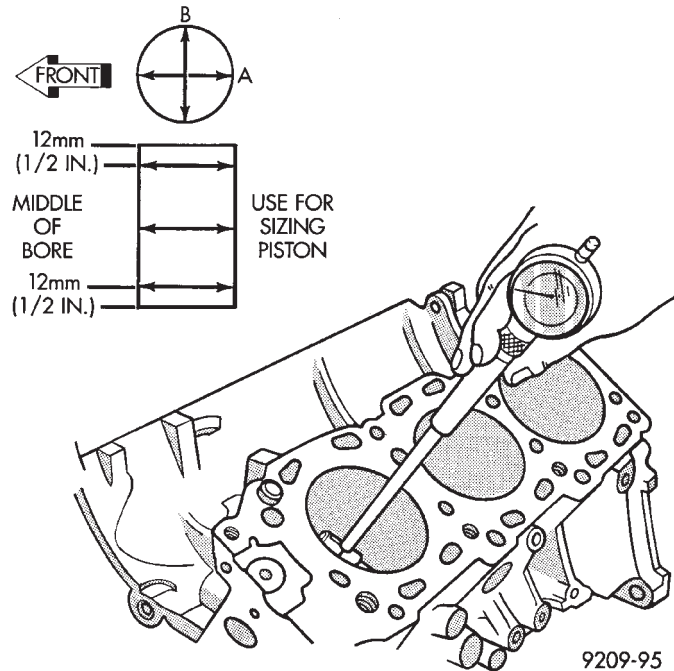

Fig. 92 Checking Cylinder Bore Size
(1) Measure the cylinder bore at three levels in directions A and B (Fig. 92). Top measurement should be 12 mm (.50 in.) down and bottom measurement should be 10 mm (.38 in.) up.
(2) Standard bore dimension: 83.50 - 83.53 mm (3.2874- 3.2886 in.)